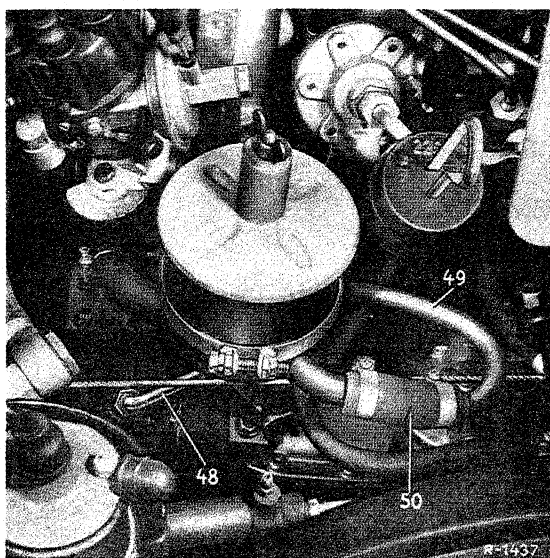

Figure 7
In the case of vehicles with right-hand drive first push the rubber ring (46a) on the low pressure hose (46) in such a way that it lies on the front axle beam when the low-pressure hose is installed. Also push the low-pressure hose (46) on the pipe elbow (45) and secure it. Then push the low-pressure hose (50) on the connection pipe of the tank and the return line (49) into the low-pressure hoses (46 and 50). Following this fit hose clamps (51) (figures 7, 9 and 10).